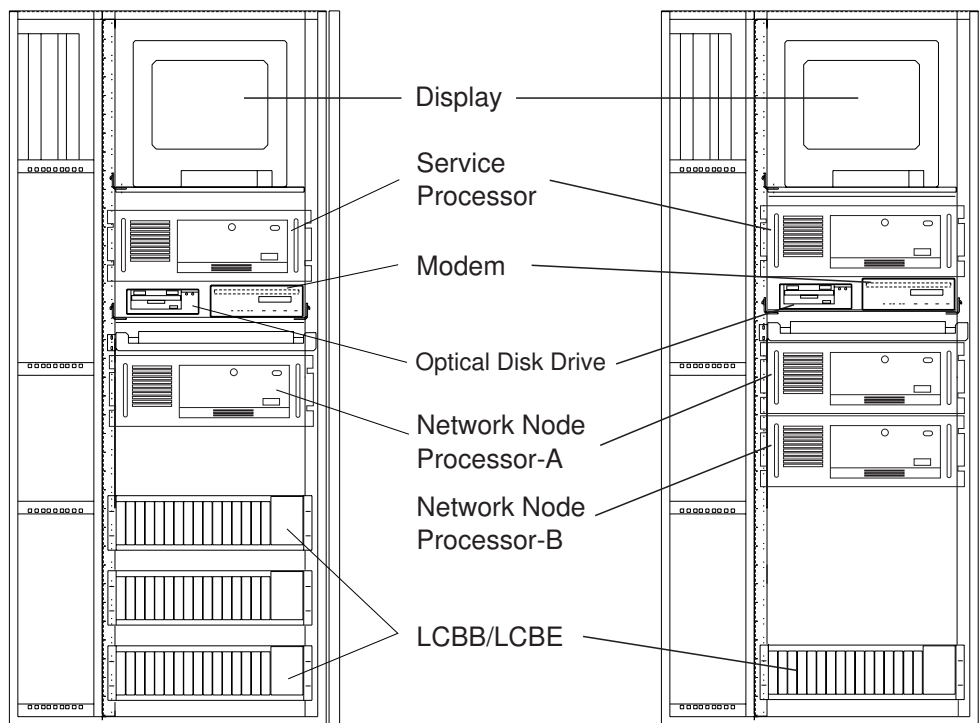
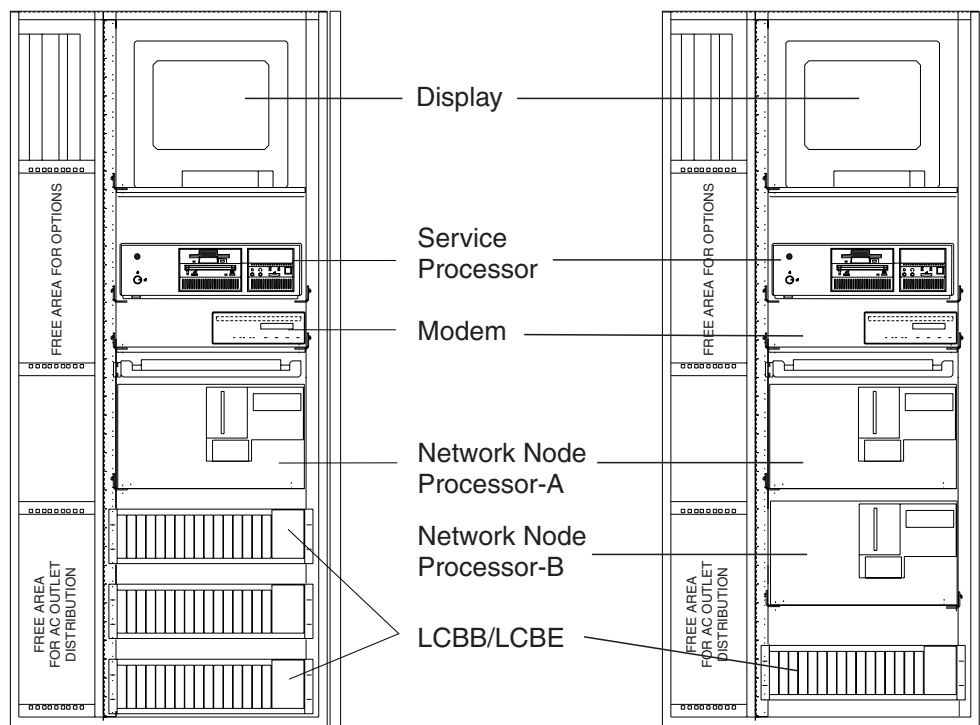

Figure 1. Units Installation in the Controller Expansion (SP Type 7585)
Figure 4. Units Installation in the Controller Expansion (SP Type 9577)
- \_\_\_ 2. Locate the positions to install the Service Processor according to his type, the display and the service drawer. Refer to Figure 1 on page 4 to Figure 4 on page 5